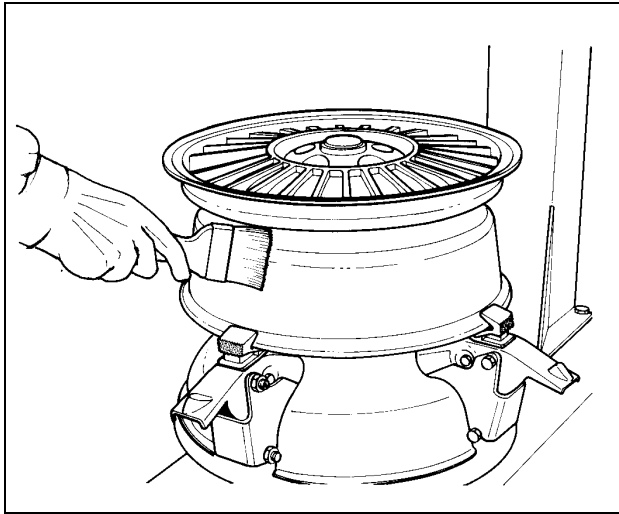

Fig.22
A. Lubricate the entire rim surface (Fig.22).